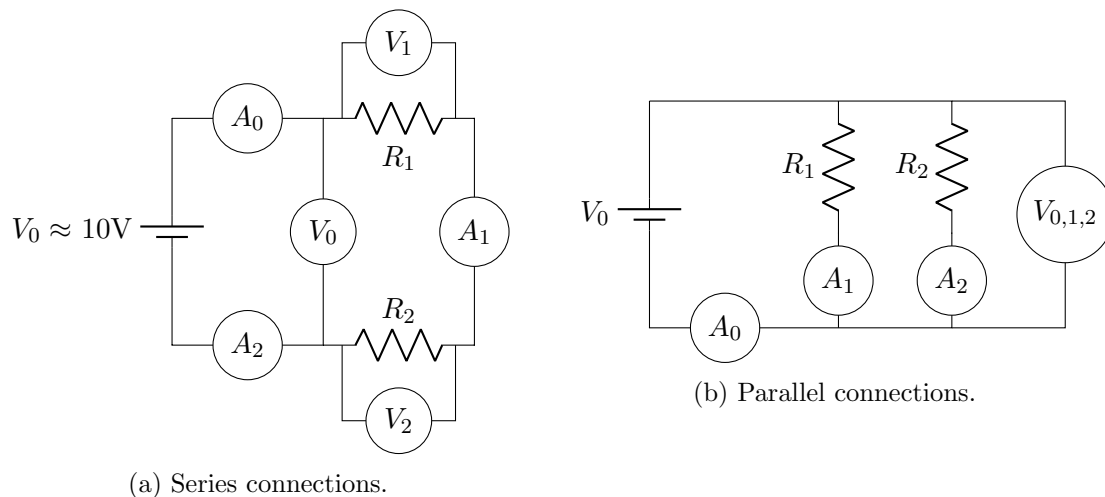

Figure 4.4: Current and voltage measurements for (a) a series circuit, and (b) a parallel circuit.
In this part, two resistors will be used. To assist you in getting all the necessary measurements, there is a sequence of paper templates showing how everything should be plugged into a circuit board. In the first circuit the two resistors will be connected in series. In the second, they will be connected in parallel. The circuits are shown in Fig. 4.4. However, instead of having four different meters connected to the circuits, you will be using your two meters to measure the necessary voltages and currents. To help you accomplish this, three separate templates are provided for each of the two circuits, showing the different ways in which the multimeters are connected. The circuit remains the same — the templates are just to help you get the meter readings, and you needn't use them if you have understood how to connect ammeters and voltmeters.
2. Starting with a series circuit [see Fig. 4.4(a)], identify the appropriate template and wire the circuit for the first set of measurements. When your circuit has been checked, turn on the power supply and adjust it to approximately 10 volts. This constant source voltage will be used for each of the circuits in this part. (Note: if the power supply voltage drifts during your measurements, consult your lab instructor.)
4. Follow the same approach with the parallel circuit [see Fig. 4.4(b)]. You will notice a different pattern of currents and voltages from what you saw with the series circuit. Here